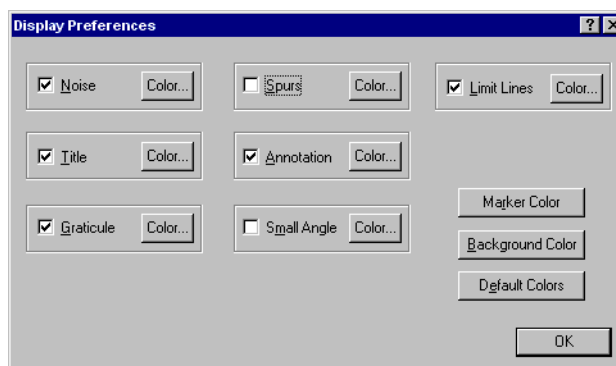

Figure 15-8 Uncheck Spurs
- 2 In the **Display Preferences** dialog box, uncheck **Spurs**. See Figure 15-8. Click OK.